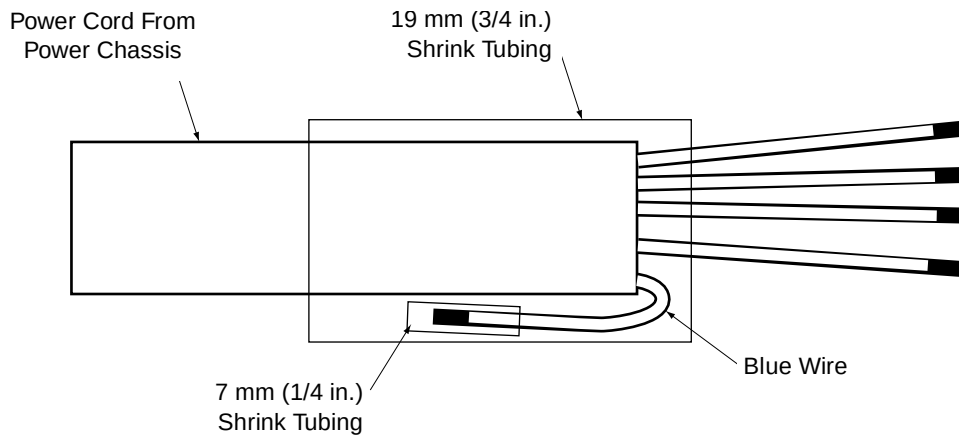

**Figure 5-4. Insulating Blue Wire in Power Cord (200-240 VAC)**
4. Place the 7 mm (1/4-inch) shrink tubing over the end of the blue wire in the power cord and use a heat gun to apply it (see Figure 5-4).
6. Place the 19 mm (3/4-inch) shrink tubing over the end of the blue wire and the power cord insulation. Use a heat gun to apply it (see Figure 5-4).
**NOTE:** In 380-415V installations, a “5-wire” installation (3-line + neutral + PE) is required. In 200-240V installation, a “4-wire” installation (no neutral) is required. The blue wire from the PA-4 power chassis must be insulated (see Figure 5-4 on page 100).